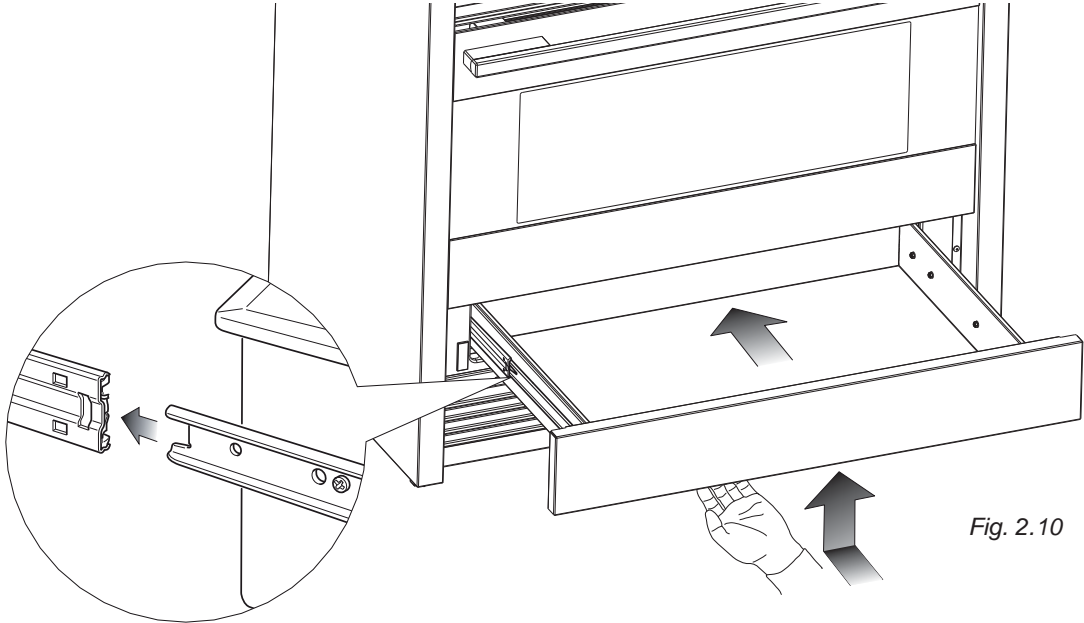

Fig. 2.10
- 1. Insert the drawer guides into the range guides (fig. 2.10).